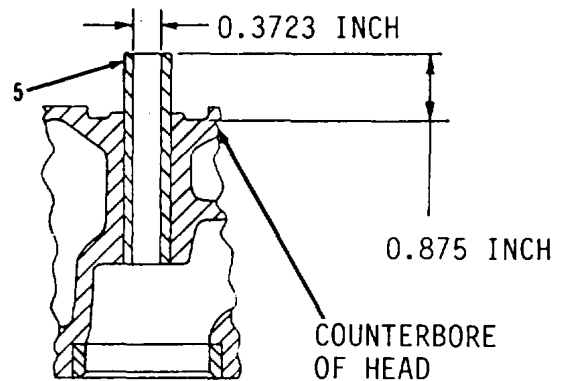

Figure 3-68.
4. Lower temperature of eight guides (5).
5. Install eight new guides (5, Figure 3-68), if removed. Using suitable driver and press, install eight new guides (5) so they extend above top of cylinder head to proper dimension. Minimum diameter of bore of eight new guides (5) after installation is 0.3723 inch. Remove all burrs and clean eight new guides (5) after installation.